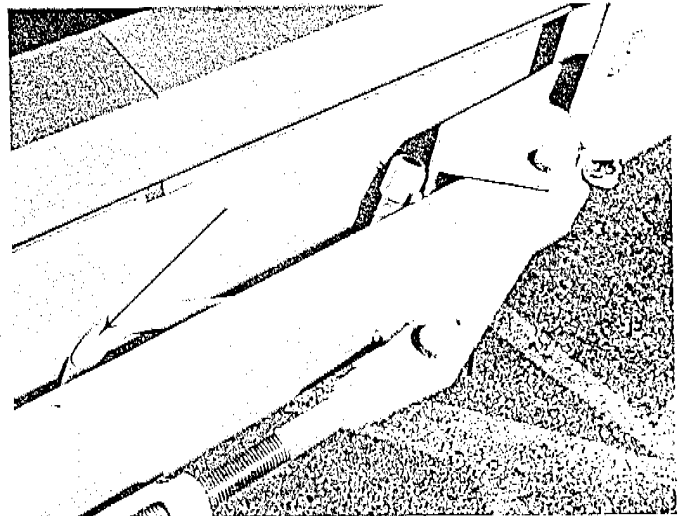

Fig. 2
- To lower the rear landing gears, crank handles must be installed on the crank holders. The crank handles are stored on each side of the trailer, in the space between the stored outrigger and the side of the trailer frame. (Fig. 2)
- d. Remove the crank handle from the rear landing gear and store it back on the side of the trailer frame. (Refer to Fig. 2)
- a. The outriggers are stored on the sides of the main trailer frame. (Refer to Fig. 2)